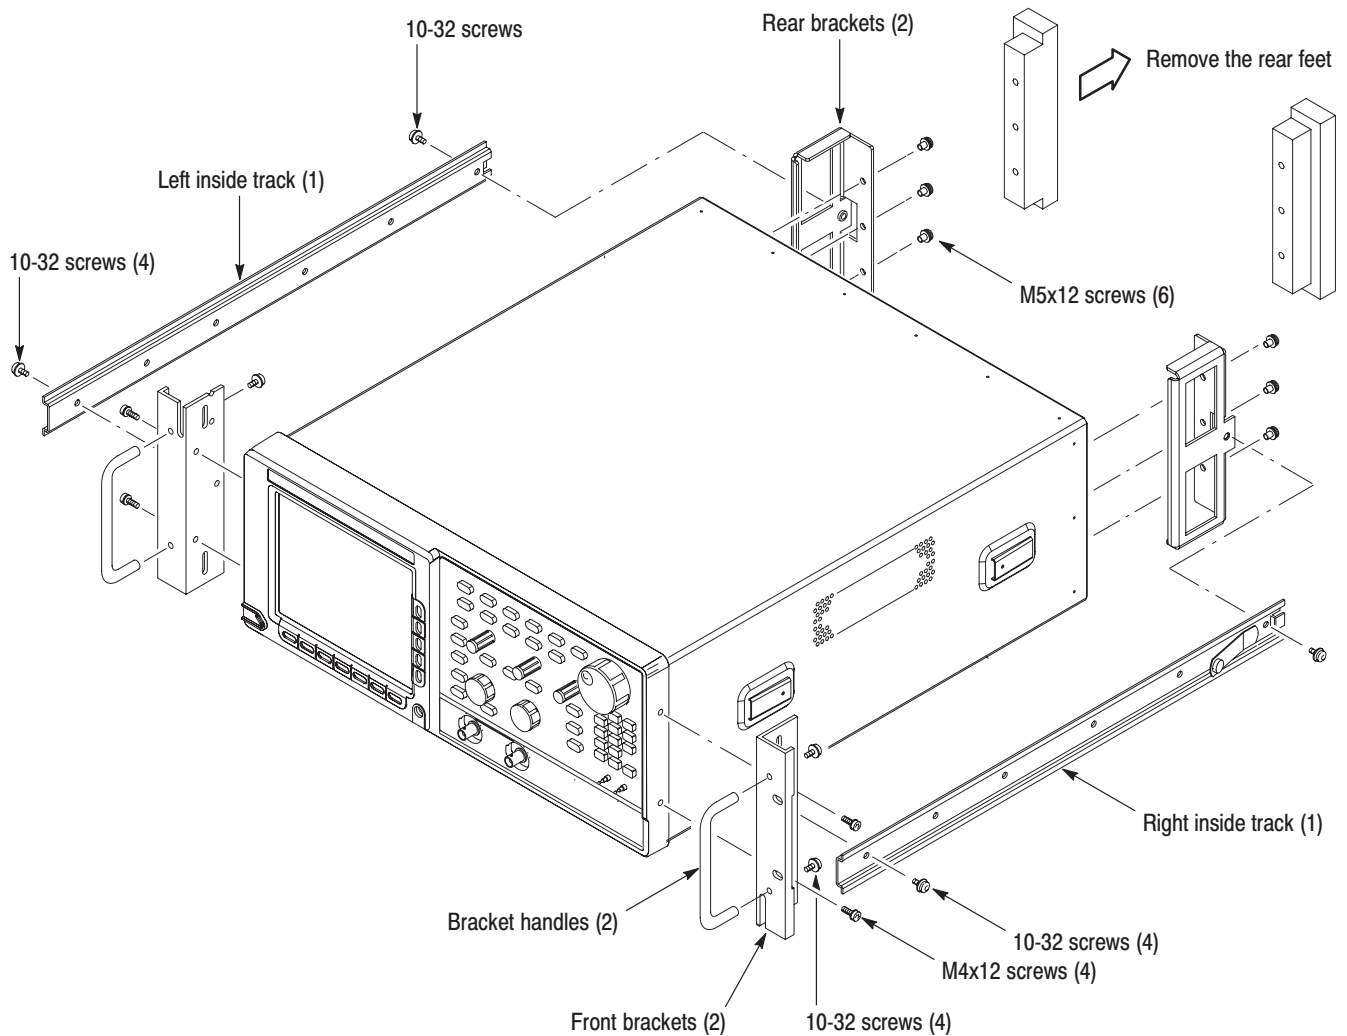

Figure 5: Installation of kit hardware to AWG400/700
1. *Assemble the hardware:* Unpackage and identify the hardware shown in Figure 5. Refer to Figure 5 as you perform the following steps. (The parenthesized numbers appearing with the hardware items in the figure refer to the quantity of the item used to install the kit hardware.)
- c. Attach the brackets:** Using a screwdriver with a #2 Phillips tip (Items 1 and 2) and six screws (M5x12), install the two rear brackets as shown in Figure 5. When reinstalling the six screws at the rear panel, tighten them to 16 inch-lbs torque.
- Locate the two front brackets and the four Phillips mounting screws (M4x12) in Figure 5. Also locate the two front bracket handles and the four No. 2 Pozidrive screws (10-32) used to mount them to the front brackets.
- Locate the two inside tracks in Figure 5.